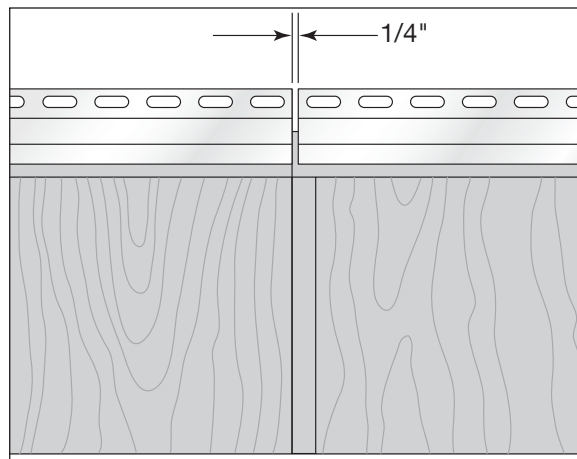

Fig. 1
- When lapping panels, leave a 1/4" gap at the nailing hem (Fig. 1).